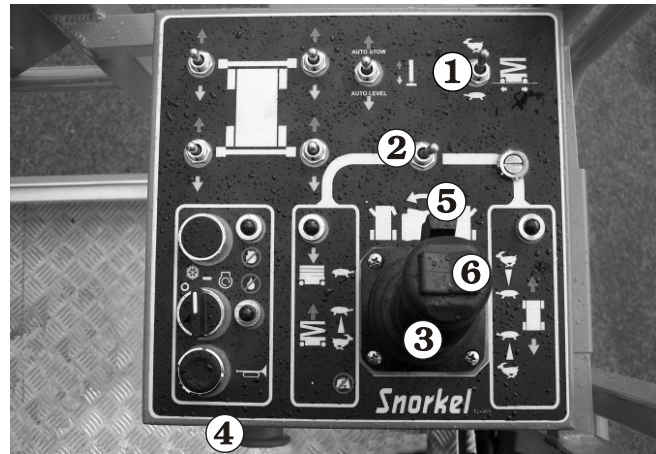

Figure 8.18
2. Set the **Speed** switch **1** to turtle (slow) (see Figure 8.18) if you are going to be driving close to other objects or need to move the RT very slowly for other reasons.
3. Set the **Lift/Drive Selector** switch **2** to drive (right) (see Figure 8.18).
4. Squeeze and hold the **Safety Control** **5** against the **Joystick Controller** **3** (see Figure 8.18).
5. Push the **Joystick Controller** **3** (see Figure 8.18) slowly forward or pull it slowly backward, depending on which way you want to go. The further you move the joystick the faster the RT moves.
6. To make a right or left turn, press and hold the **Steering** rocker-switch **6** on top of the **Joystick Controller** **3** (see Figure 8.18).